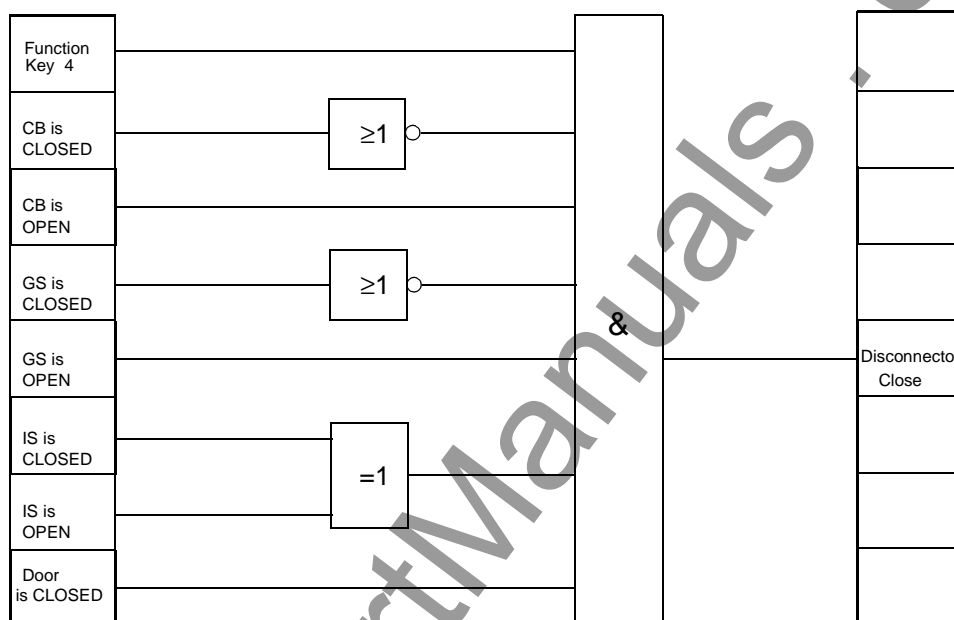

Figure 5-40 Interlocking an disconnect switch as an example of a user defined interlock protective function
Interlocking logic (see Figure 5-40) is to be implemented for the operation of an isolating switch using function key 4. The user must take the switch position indications of the corresponding isolation switch and the grounding switch into account. The CLOSE and TRIP indications from the auxiliary contacts of each switch are used.
- The CLOSE indications from the circuit breaker (CB) and from the grounding switch (GS) are supplied to the inputs of the NOR functions.
- The OPEN indications from the circuit breaker (CB) and from the grounding switch (GS) are supplied to the inputs of the AND function.
- The switch position indications from the disconnect switch (IS) are linked to the inputs of the XOR function.
- Function key 4 is linked with an input of the AND function.